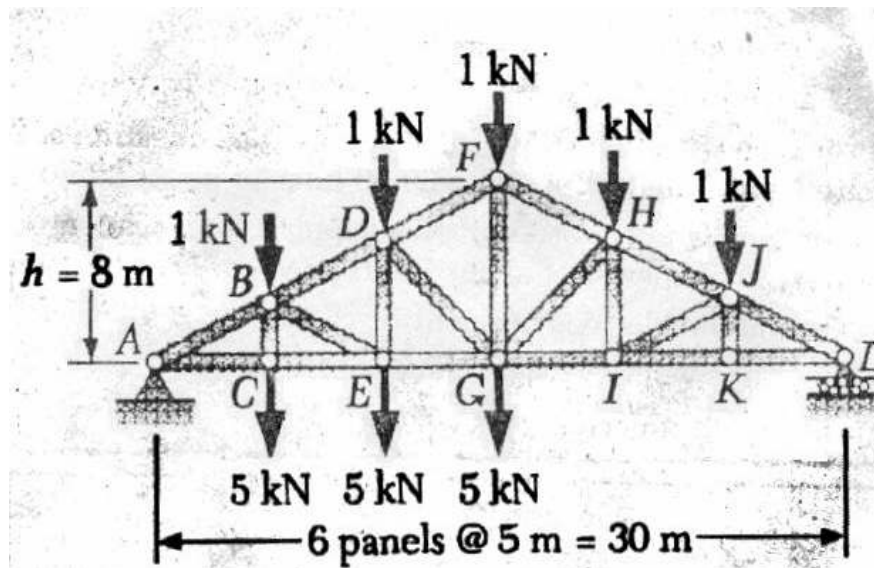

Fig : 3
2. In the truss shown in fig. 3. Determine the force in members FH , GH and GI .